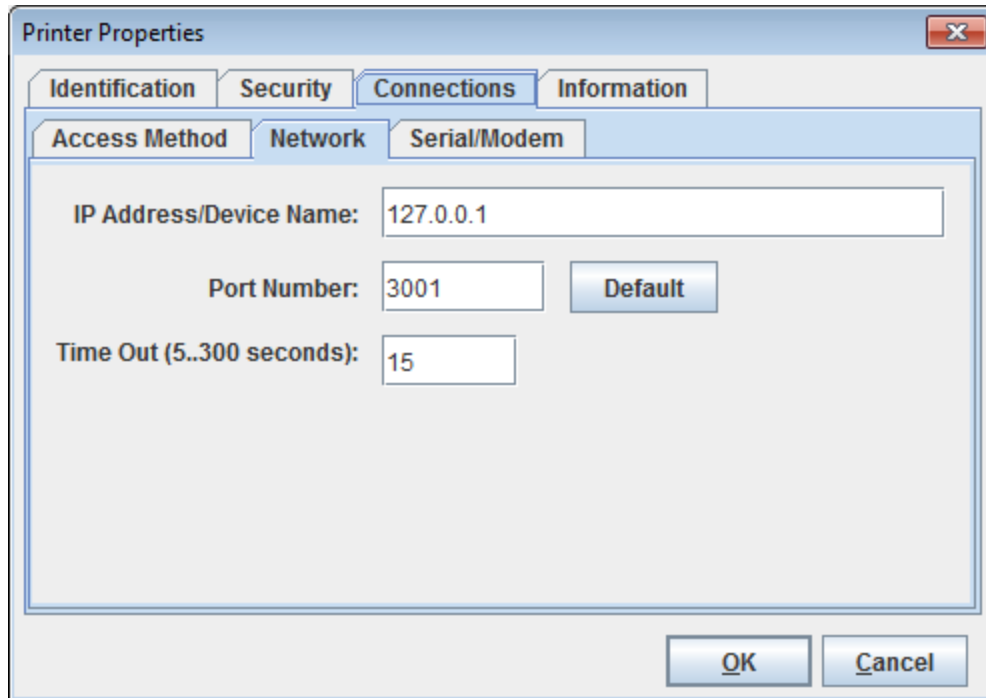

Figure 5 Printer Properties: Connections Tab – Network Sub-Tab
10. Click the **IP Address/Device Name** field and then type the IP Address or host name of the printer you want to access. Follow the format shown in Figure 5.